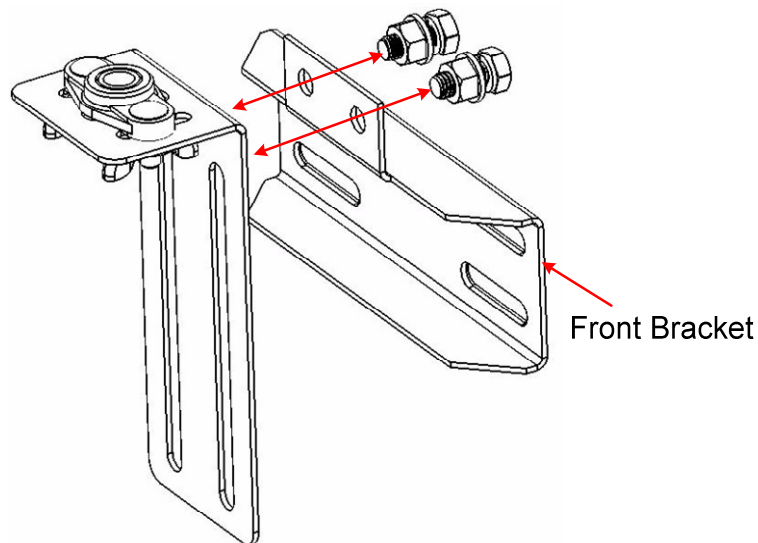

Figure 14 – Fifth Wheel Slider Attachment
2. Attach front bracket to the fifth wheel slider bracket using the two bolts (slider attaching bolts). See Figure 14. Tighten finger tight.